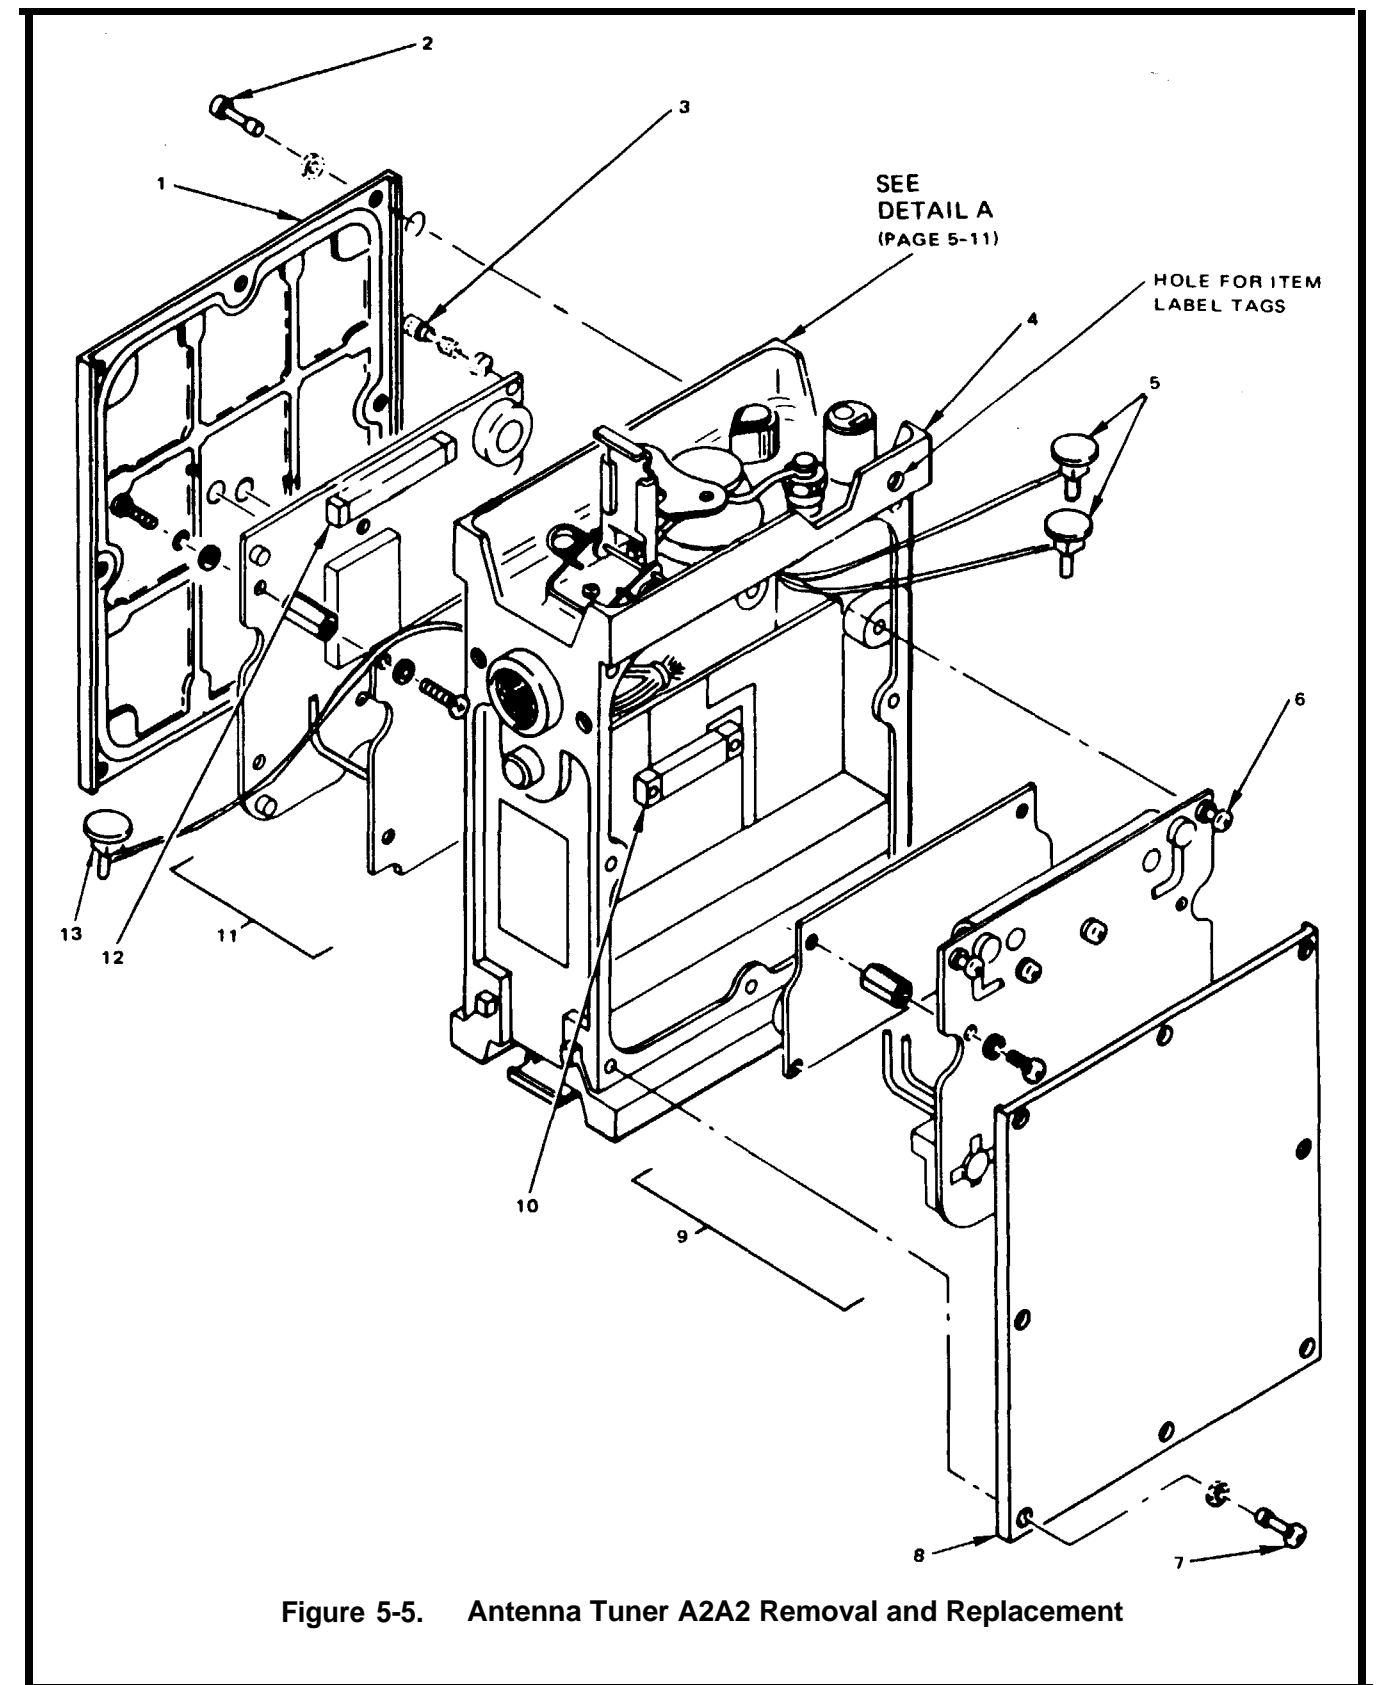

Figure 5-5. Antenna Tuner A2A2 Removal and Replacement
**ANTENNA TUNER A2A2 REMOVAL AND REPLACEMENT, fig 5-5**